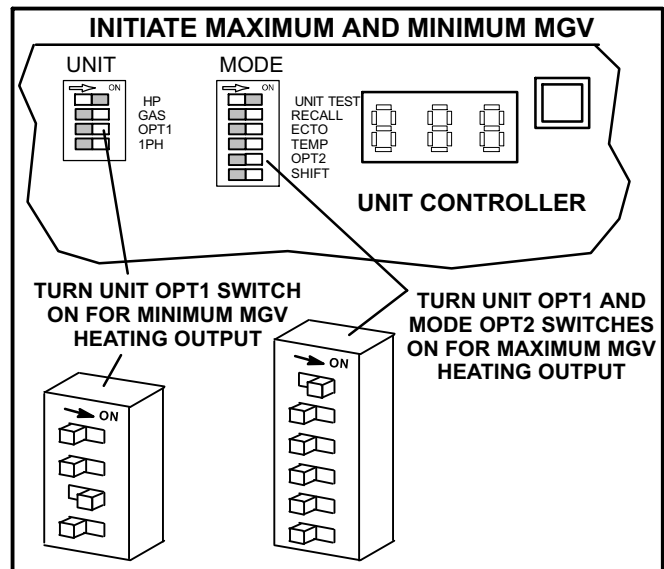

FIGURE 8
- 2- After the unit has operated for 5 minutes, turn the OPT1 and OPT2 switches ON. See figure 8. The unit will operate at maximum heating input.